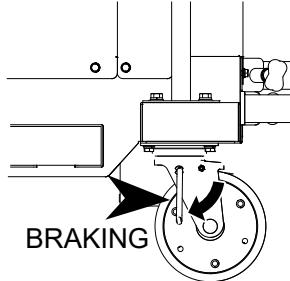

Figure 5. Locking Caster Brakes
1. Push down both sides of the caster brakes to lock (Figure 5).